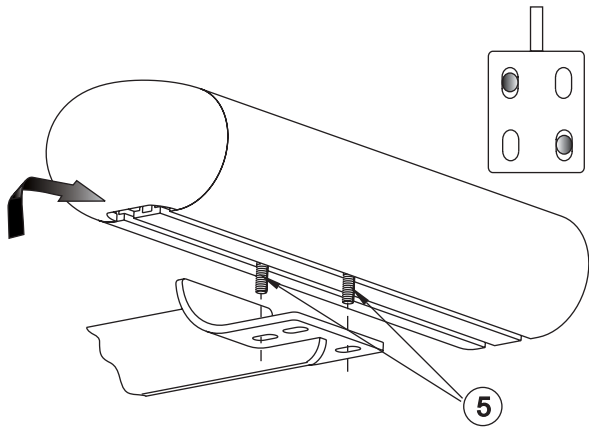

FIGURE 2
- STEP 3. Slide T-head bolts on step bar as shown (3 per slot, 6 per bar). Place step bar on saddle with long step pad forward and end cap screw facing inward. Assemble with 1/4" fasteners. **SEE FIGURES 2 AND 3.**